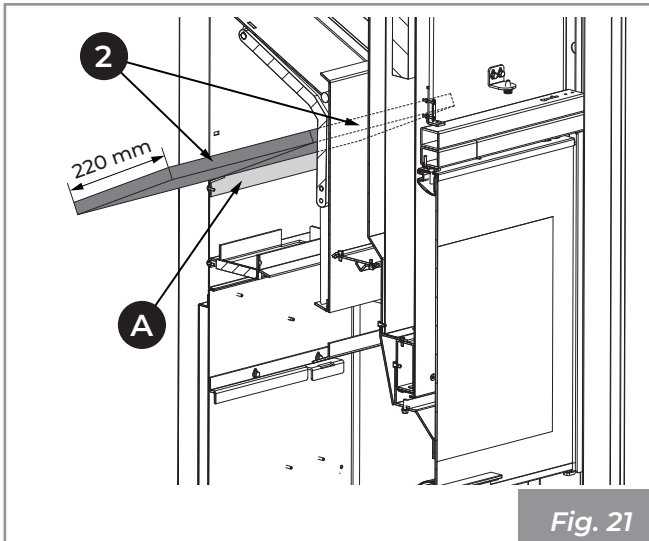

Fig. 21
- 4) Position the panels (2) resting them on the appropriate support (A) (Fig. 21).